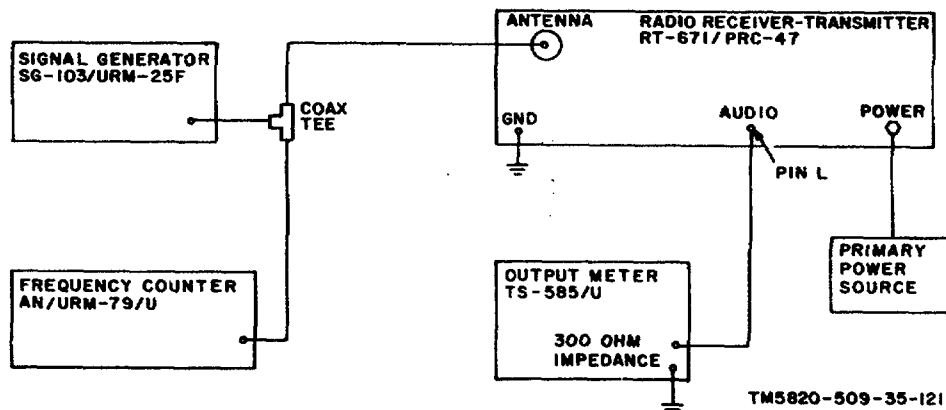

Figure 3-106. Receiver Audio Output Adjustments, Test Equipment Setup.
(1) Remove the RT-671/PRC-47 from its case using the procedures of paragraph 3-11.
(2) Connect the primary power source to the POWER connector on the front panel of RT-671/PRC-47.
(3) Connect the output meter, signal generator and frequency counter to the receiver-transmitter as shown in figure 3-106.
(4) Set the output meter IMPEDANCE switch to 300 ohms, and adjust the meter multiplier for 5000 milliwatts full scale.
(5) Adjust the signal generator to 2226 kHz and set the output level to 1000 microvolts.
(6) On the front panel of RT-671/PRC-47, set the controls as follows: